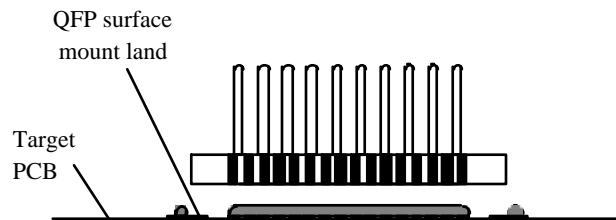

Fig. 2 Side view of emulator foot oriented over land pattern
- (d) Align and place the emulator foot onto the solder paste and land pattern as shown in Fig. 2. 'Pick and place' equipment or a vacuum pen, are recommended (if they will accommodate the foot), but, handling the foot by the gold pins and placing on the land pattern by hand will suffice.